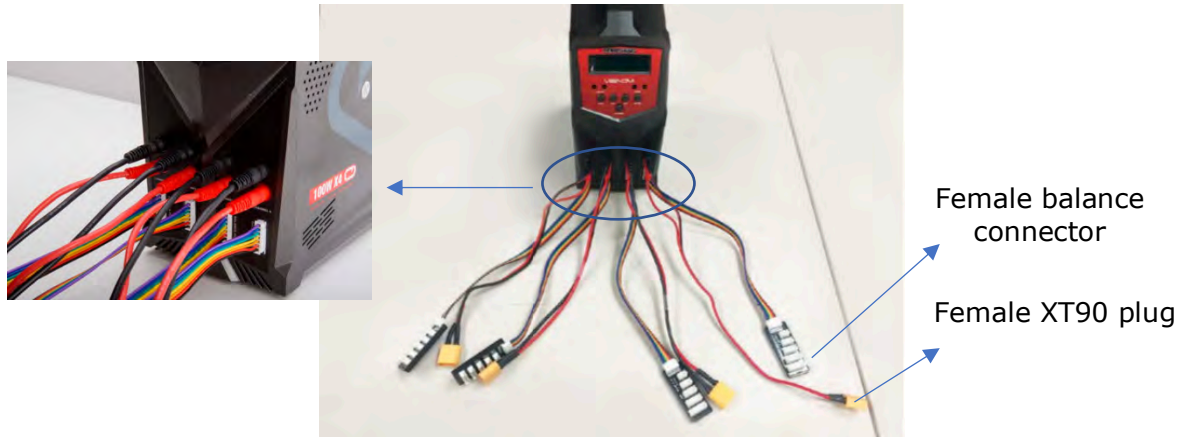

Figure 2: Venom PROQUAD channels plugged with both XT90 and balance connector cables
- b. Connect the four XT90 plug leads to each charging port (black plug into the black port; red plug into the red port). Each lead should be inserted in the **same vertical channel** (Figure 2).